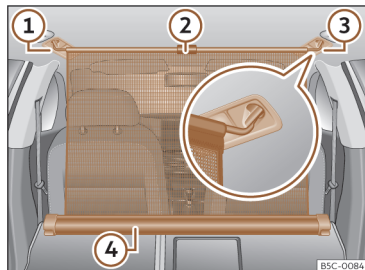

Fig. 135 In the luggage compartment: net partition hooked in place with the rear seat backs folded down.
- Pull up handle»» Fig. 135 ② to remove the net from the casing»» Fig. 135 ④.
- Hook in the net partition on the right or left side»» Fig. 135 ③ (magnified image).
- Hook in the net partition into the housing on the other side»» Fig. 135 ① by pulling the rod.
The net partition is properly assembled when the T-shaped ends are firmly secured in the corresponding housings»» Fig. 135 ① and ①.
- Roll up the net into the casing»» Fig. 135 ④ lowering it with your hand.